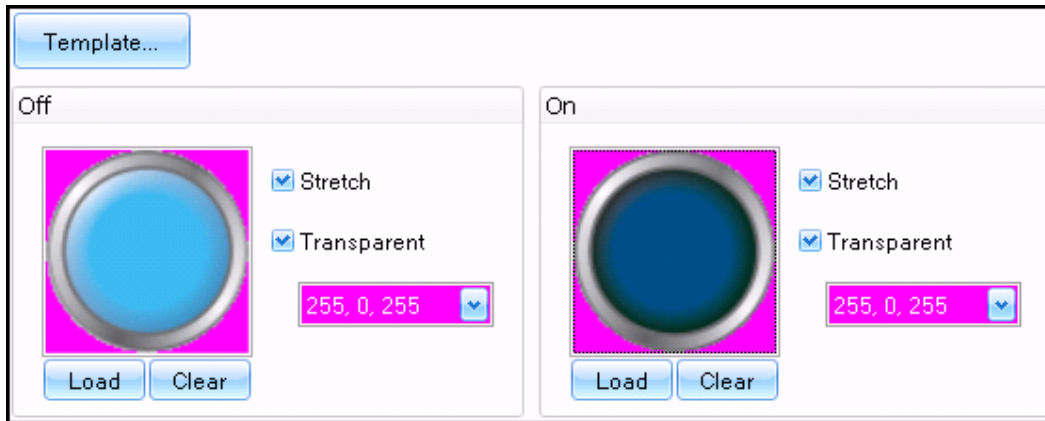

Figure 6.2.11
- Figure 6.2.11 is an interface of state text.